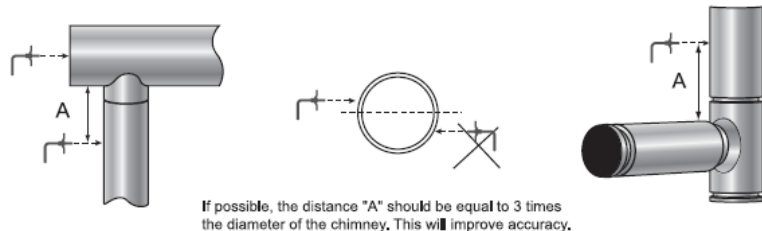

FIGURE 36
- The **Figure 36** shows the location of the probe for the PDS. Location is important to make sure there is enough pressure or draft available or the switch to work. PDS location to be at 3' from last elbow before termination of vent system.